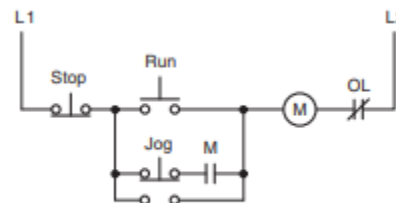

Figure 6-70 Hardwired control circuit for Problem 4
92. Design a PLC program and prepare a typical I/O connection diagram and ladder logic program that will correctly execute the hardwired control circuit in Figure 6-70 . Assume: Stop pushbutton used is an NO type. Run pushbutton used is an NO type. Jog pushbutton used has one set of NO contacts. OL contact is hardwired.